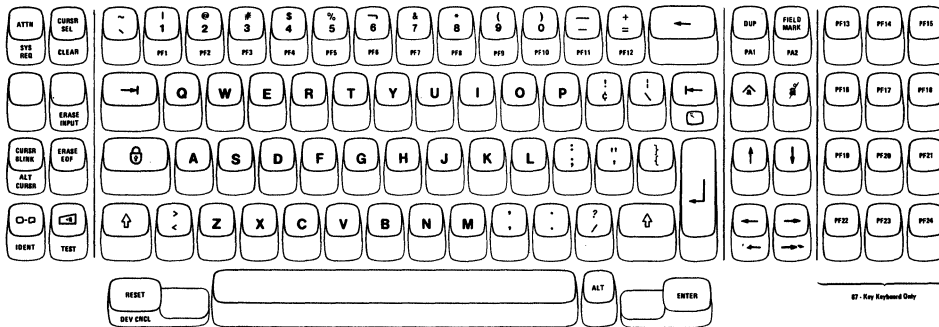

Figure 5-4. 3276 Typewriter Keyboard.
1. The Typewriter keyboard (Figure 5-4), which is similar to the 3275 and 3277 Typewriter keyboard.